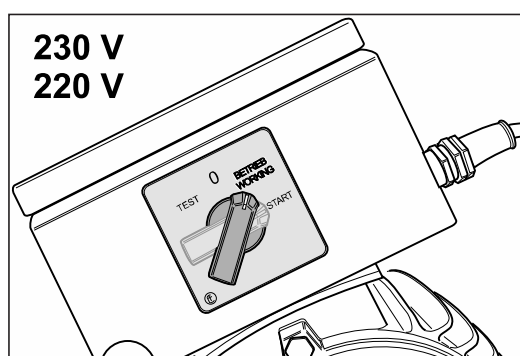

Fig. 25 Once the motor has reached its full speed, release the switch button. The switch button will then automatically move to position -BETRIEB (WORKING)-.
- 3 Once the motor has reached its full speed, release the switch button. The switch button will then automatically move to position -BETRIEB (WORKING)- (fig. 25).